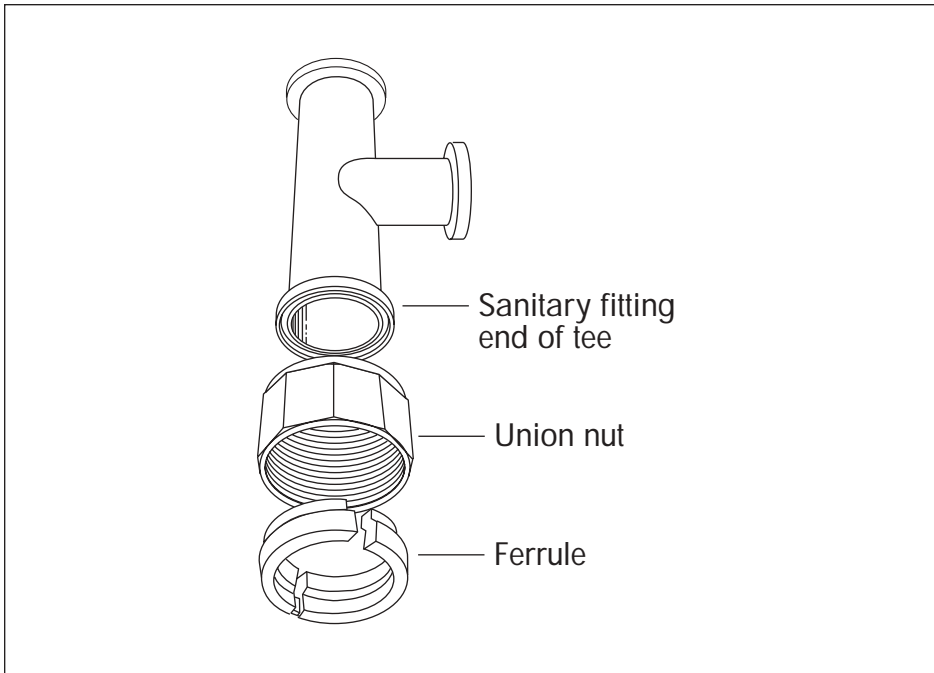

Figure 6. Sequence of Ferrule and Union Nut on Tee
- a. Slide the union nut and the ferrule over the fitting end of the tee in the sequence and orientation shown in Figure 6.